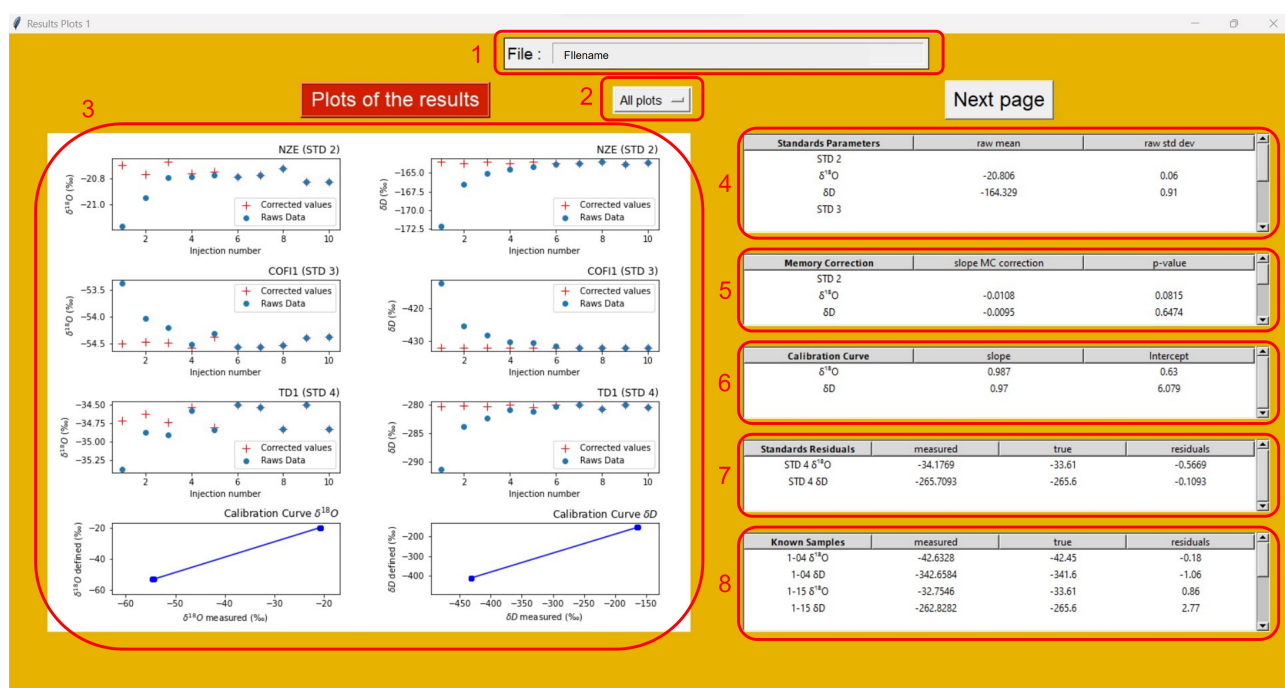

Figure 3: Screenshot of the first page of results of CALWIC
When the processing button is pressed and all the calculation done, a new window appears. It looks like fig. 3. The parameters of the correction are shown on this page.
- 2 : When this is set to all plots the page looks like the figure 3. But if you choose an other plot, the tables on the right will be overwritten to put a zoom on the plot you selected. To view again the tables, select all plots.